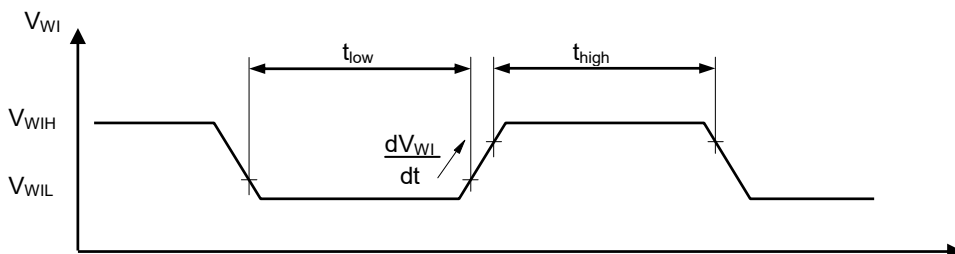

Figure 4
- \*2. When inputting a rising edge that satisfies the condition of Figure 4 to the WI pin, the watchdog timer detects a trigger.
The signal input from the monitored object by the watchdog timer should satisfy the condition of Figure 4.